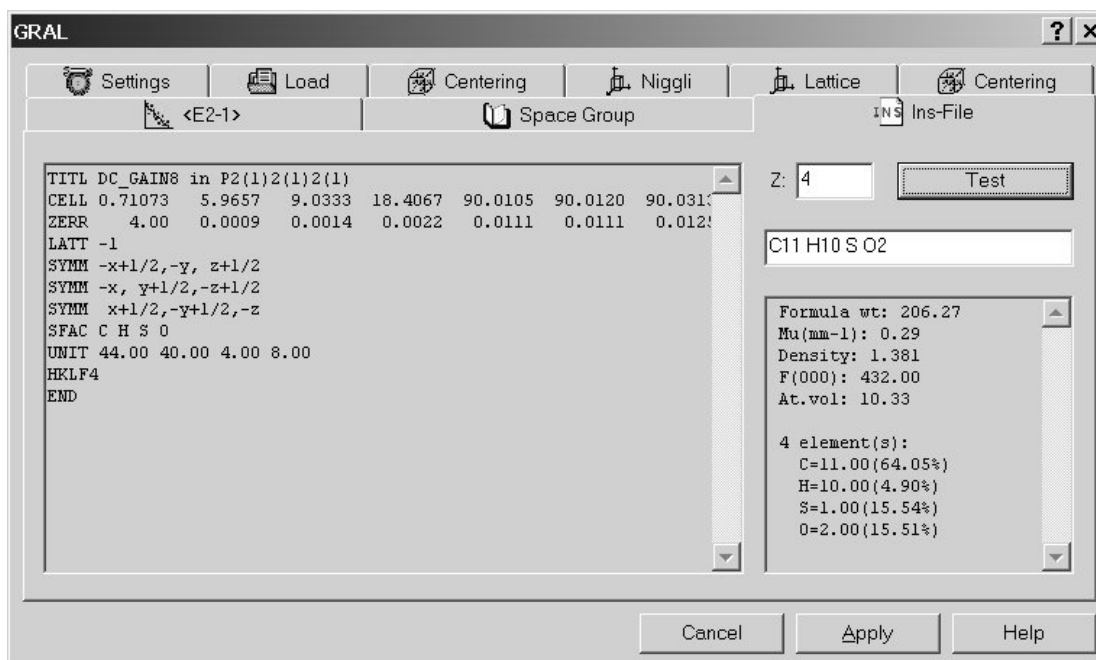

Figure 6.5.40 Screenshot of the GRAL plug-in INS-File Window
- Finally, GRAL prepares a *.ins file for use with structure solution programs. The user can edit the molecular formula and Z number in the relevant boxes shown in figure 6.5.40. Clicking on “**Test**” allows the user to check the formula weight, absorption correction mu, density etc against the molecular formula and Z number. The current contents of the *.ins file are displayed on the left hand side of the screen. Clicking on “**Apply**” creates the *.ins and *.hkl file and exits the GRAL plug-in.